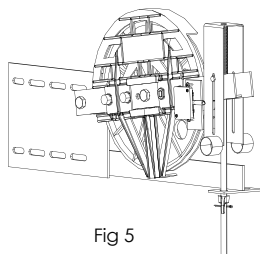

Fig 5
- 1 pcs Tension Pulley Without Weight Fig 5